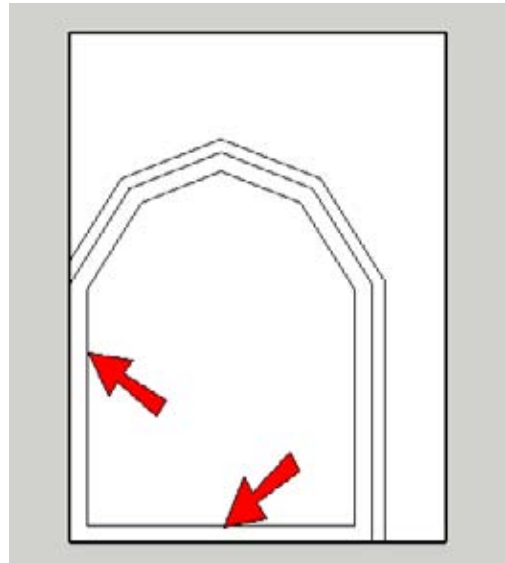

Figure 7-46
6. To make it easier to complete the cutting face, hide the window component (right-click on the window and choose Hide). Your cutting face should look like Figure 7-46, with several extra edges. The innermost face, indicated by the arrows, is where the cutting face meets the interior edges of the brown frame. This face is not needed, so erase its edges.